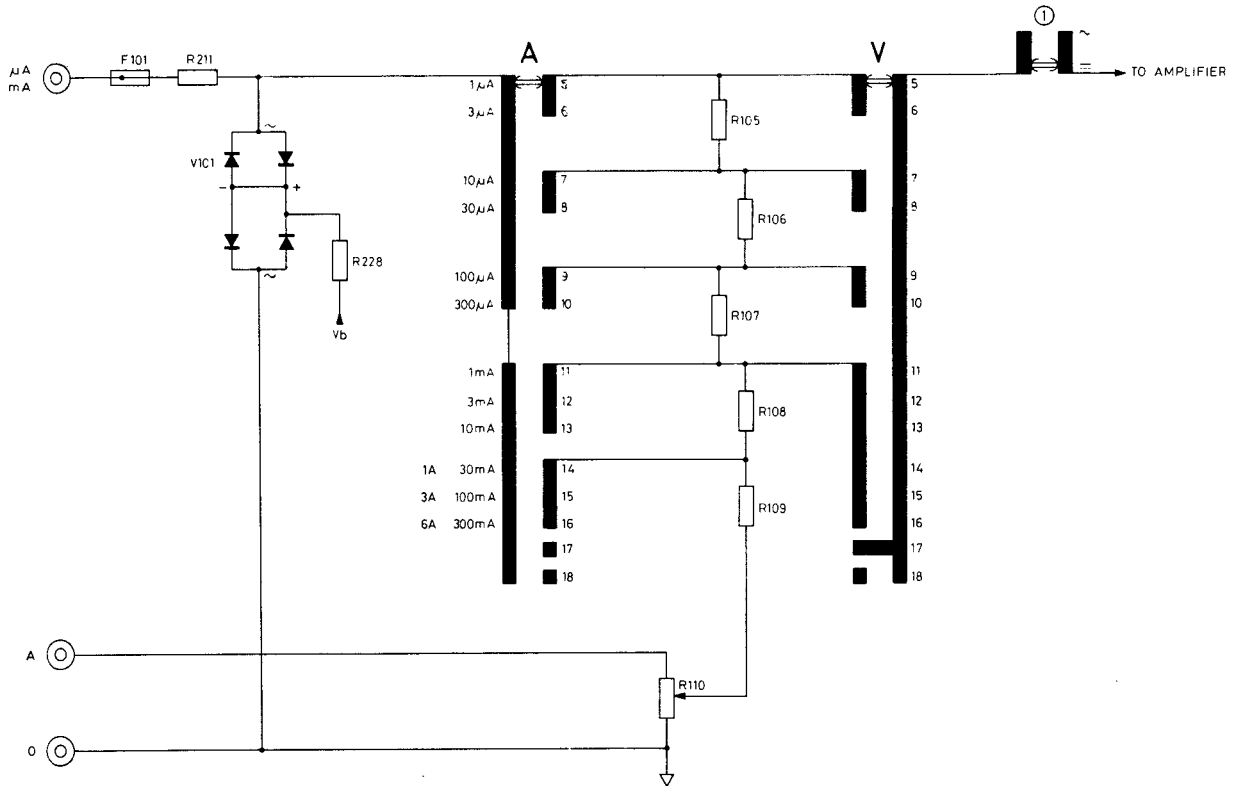

Fig. 10. $A \rightleftharpoons$, and $A \sim$ shunts
4.3.2. $A \rightleftharpoons$ and $A \sim$ shunts (Fig. 10)